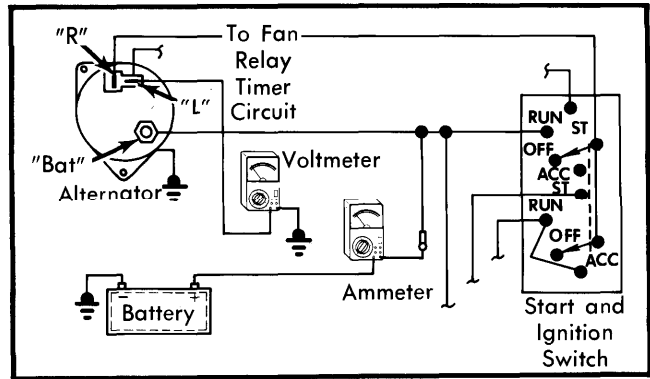

Fig. 2 Diagram Showing Meter Connections for Voltage Regulator Test
1) Turn ignition switch off. Disconnect cable from positive terminal of battery and connect an ammeter between disconnected lead and battery positive terminal. See Fig. 2.